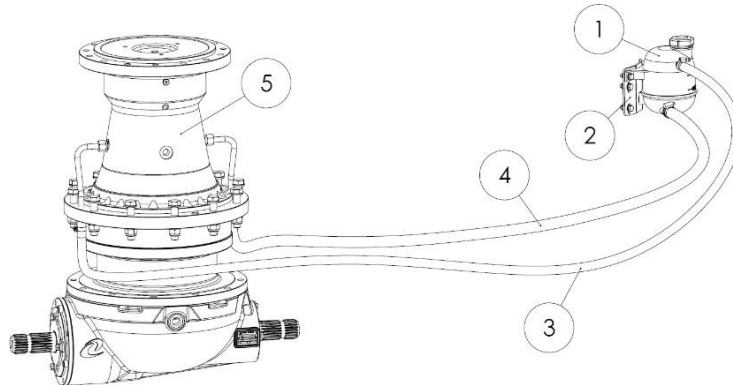

Figure 29. Gear lubrication system: 1 - oil expansion tank, 2 - tank fixture, 3 - supply line, 4 - venting line, 5 - planetary gear
The oil expansion tank (1) is bolted in the rear bottom or the front part of the tray using the fixture (2) - see Figure 29. The tank is located above the highest point of the planetary gear (5). The gear is connected to the tank with two lines - supply (3) and venting (4) lines.